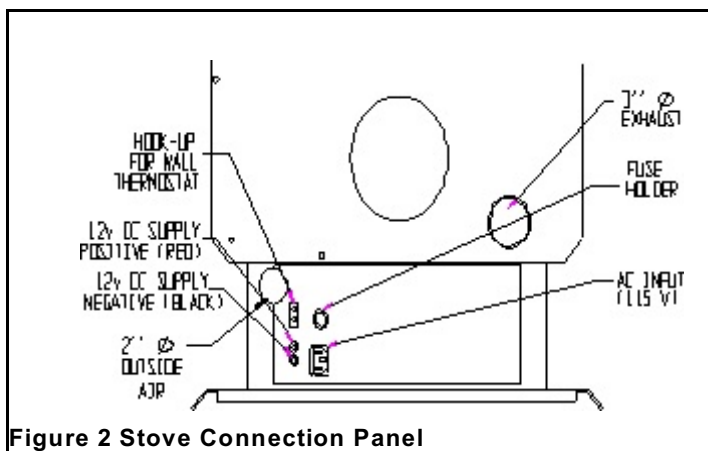

Figure 2 Stove Connection Panel
**Bushing replacement:** Disk bushing may be replaced by removing 2-#8 retaining screws and carefully prying with a large flat blade screw driver from inside hopper (**Figure 2**). To re-install bushing clean area